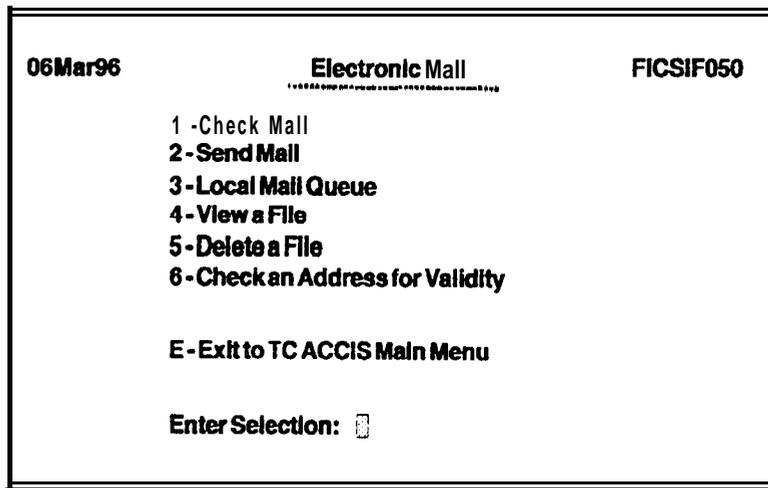

Figure 8-3. Electronic Mail Menu
3. Select **Electronic Mail**. The Electronic Mail screen is displayed as shown in Figure 8-3.
3. Select **Electronic Mail**. The Electronic Mail screen is displayed (see Figure 8-3, above, from section 8.1).